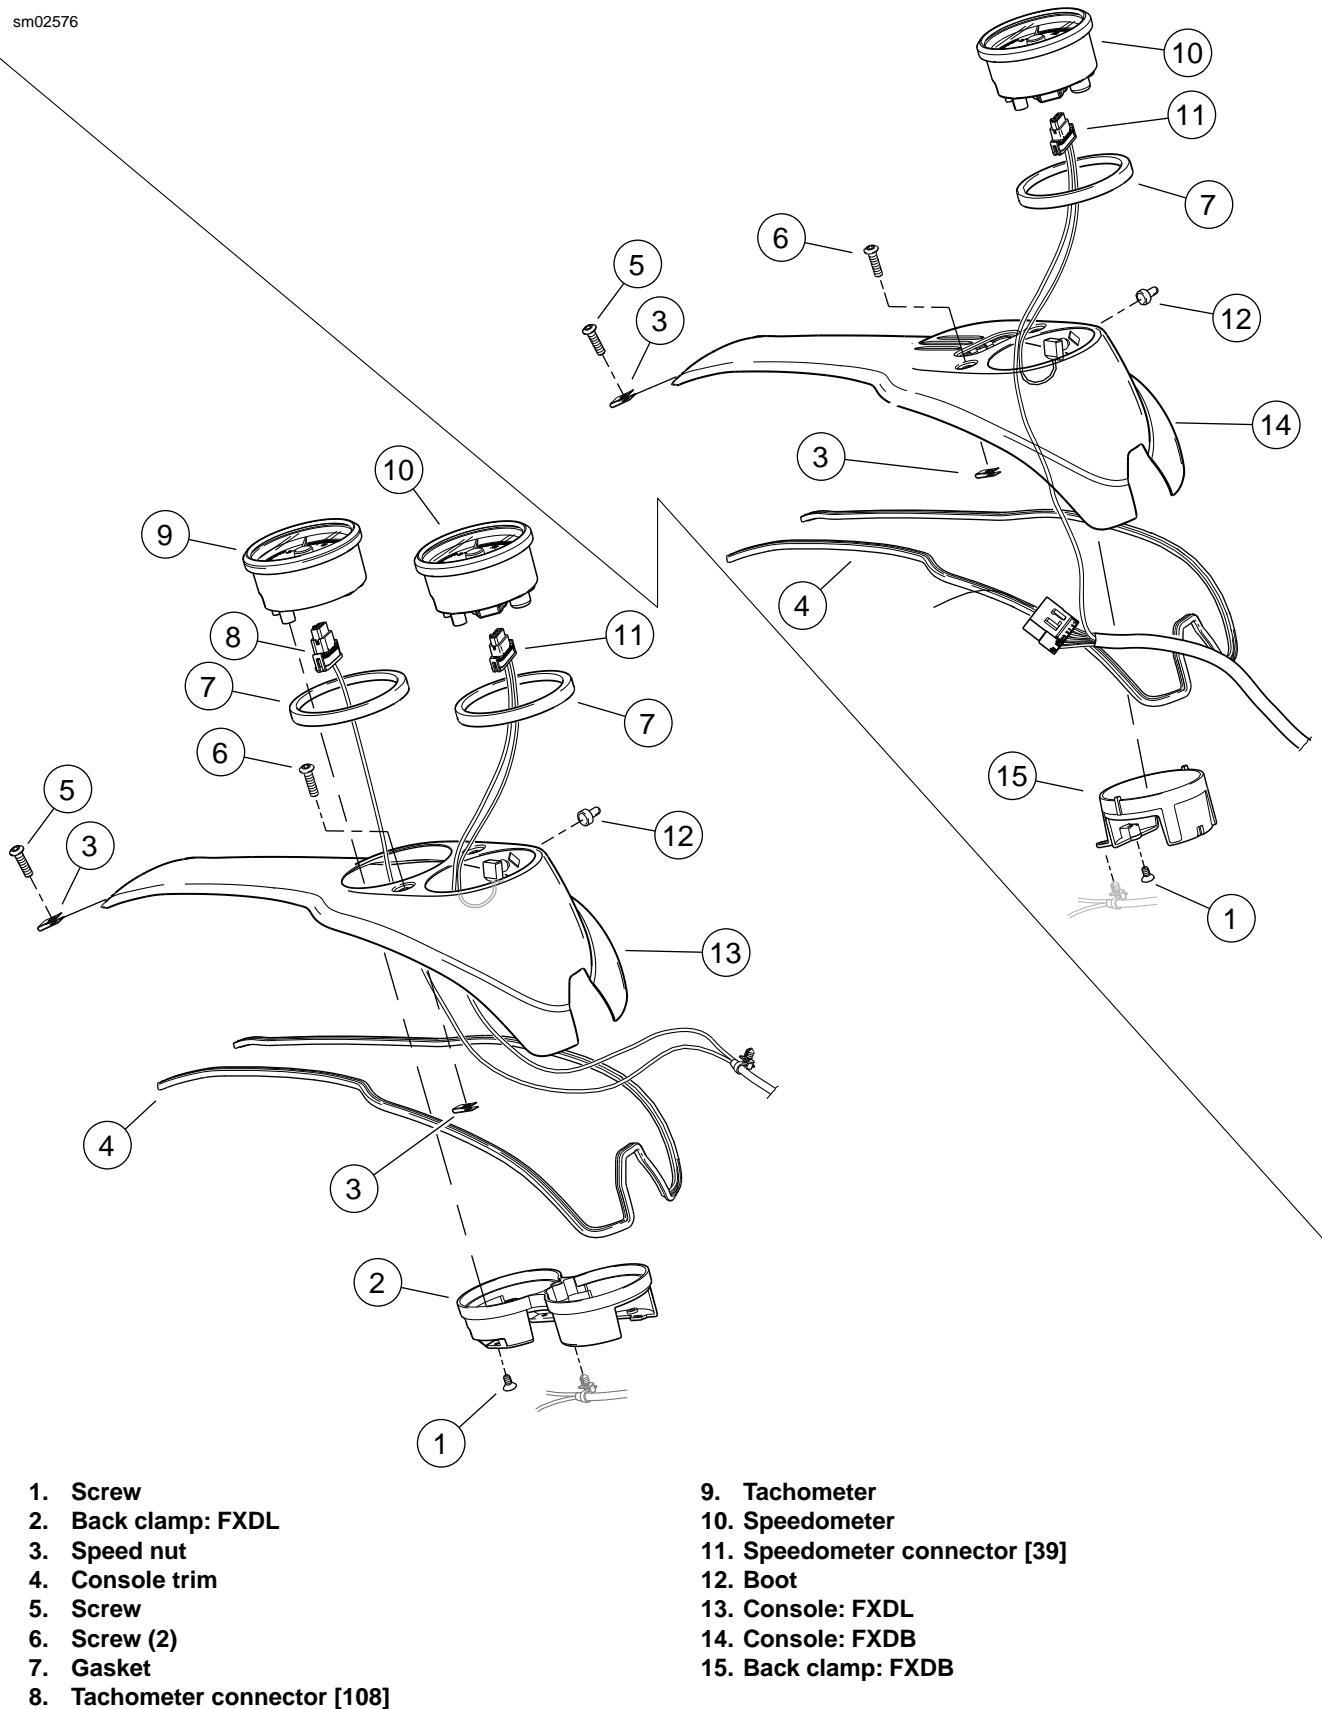

Figure 7-57. Instrumentation: FXDL, FXDB
1. See Figure 7-57. Remove screws (5, 6) and lift console from fuel tank.
3. Remove screws (1) and back clamp (2 or 15).
4. Depress connector tab and remove speedometer connector [39] (11) from back of speedometer (10).
5. Remove speedometer from console. Remove gasket (7) from speedometer/console.
1. See Figure 7-57. Install gasket (7) to console (13 or 14).
2. Install speedometer (10) in console.
3. Install speedometer connector [39] (11) to back of speedometer.
4. Install back clamp (2 or 15) to speedometer with screws (1). Make sure there is no binding with the wiring harnesses and the bracket.
1. See Figure 7-57. Install gasket (7) to console (13).
2. Install tachometer (9) in console.
3. Install tachometer connector [108] (8) to tachometer under console.
4. Install back clamp (2) to speedometer/tachometer with screws (1). Make sure there is no binding with the wiring harnesses and the bracket.